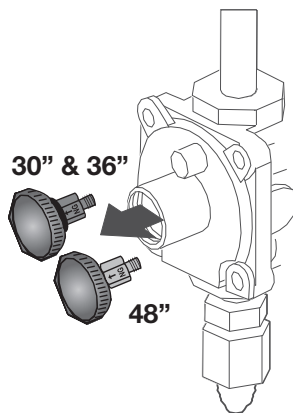

Figure 9
- 3 Unscrew the regulator cap with a wrench (see Figure 9).